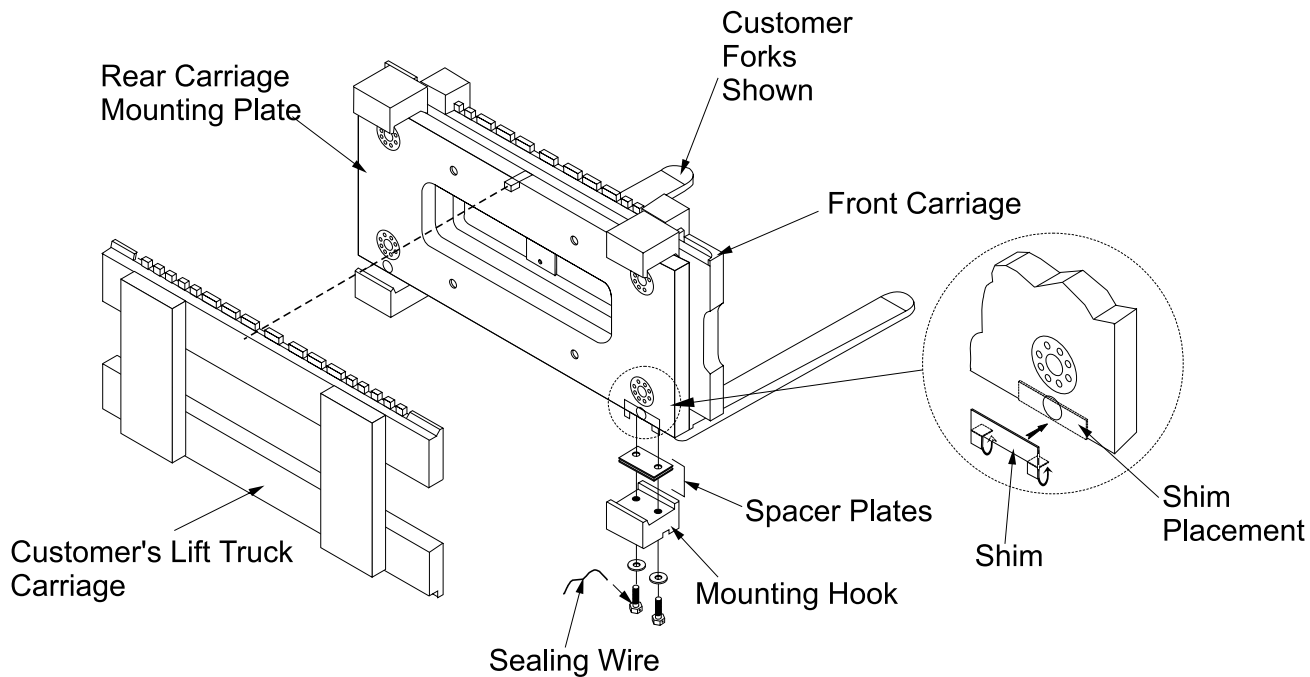
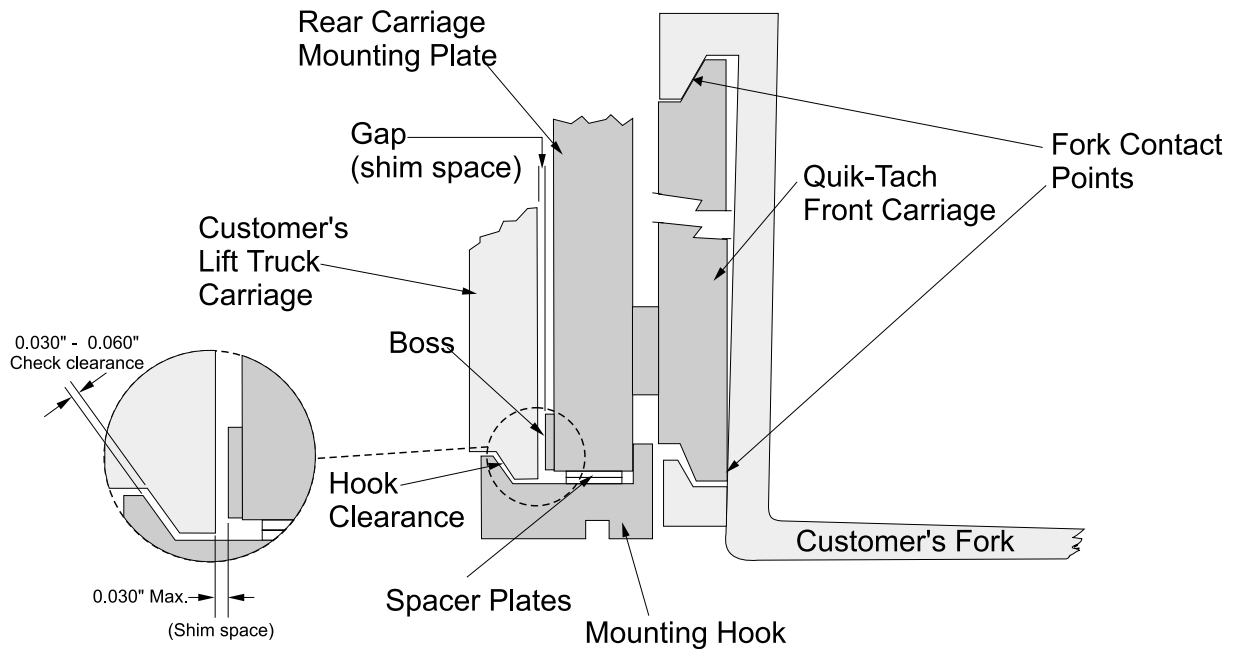

Figure 1
Figure 2
- ☐ Remove the two mounting hooks and washers bolted to the bottom of the Quik-Tach carriage (see Figure 1). They secure the scale to the lift truck and will be reattached after the scale is properly positioned.
NOTE #1: (See Figure 2) Make sure the bosses on the Quik-Tach carriage make contact with the customer's lift truck when both forks are seated. If there is more than .030" gap between the Quik-Tach and the customer's lift truck carriage (see Figure 2) when the forks are seated, use the included shims as needed to close the gap on either end, then bend over the tabs to hold them in place as shown in Figure 1. There are three shim thicknesses. If you have to stack more than two shims on either end, your carriage is bent and needs to be fixed or replaced.
NOTE #2: There must be 0.030" to 0.060" space between the customer's lift truck carriage and the mounting hooks of the Quik-Tach scale. See Hook Clearance in Figure 2. These parts must not touch or the scale won't weigh correctly. Use the spacer plates as needed to be sure this space exists. Also be sure that the customer's lift truck forks contact the scale only at the positions shown in Figure 2. Repair or replace the forks if they are bent or have protrusions which contact the face of the scale.